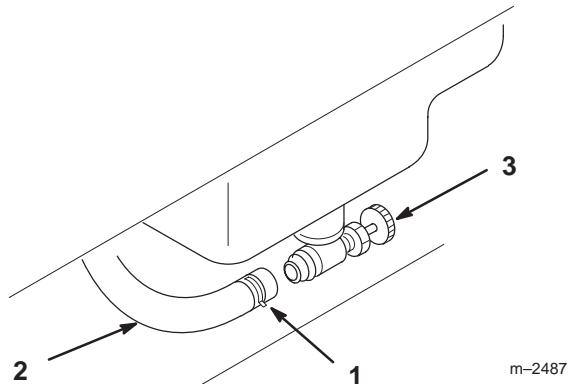

Figure 36
3. Loosen the hose clamp and slide it up the fuel line away from the fuel shut-off valve (Fig. 36).
4. Pull the fuel line off fuel shut-off valve (Fig. 36). Open fuel shut-off valve and allow gasoline to drain into a gas can or drain pan.
5. Install the fuel line onto the fuel shut-off valve. Slide the hose clamp close to the fuel shut-off valve to secure the fuel line (Fig. 36).